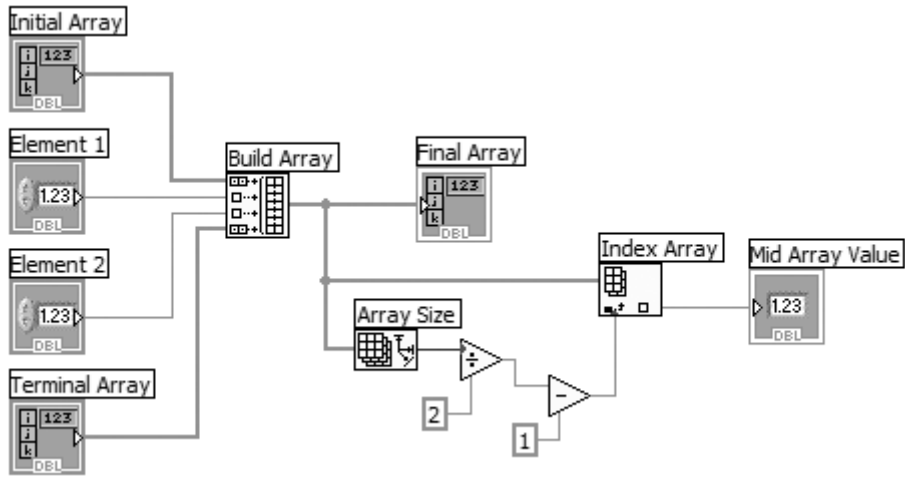

Figure 7.32
- 2. Build the block diagram in Figure 7.32. Use the Help window to find the correct terminals on the functions.